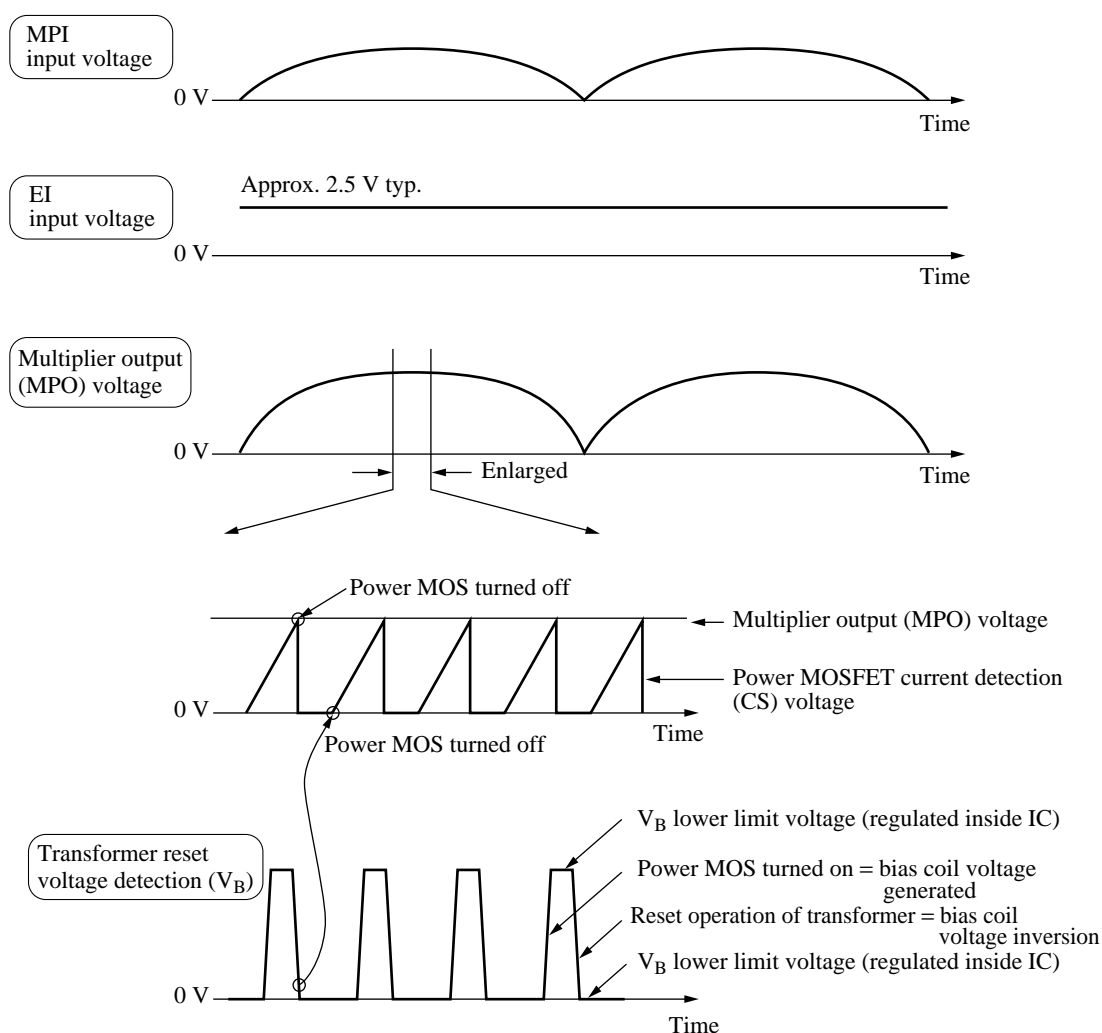
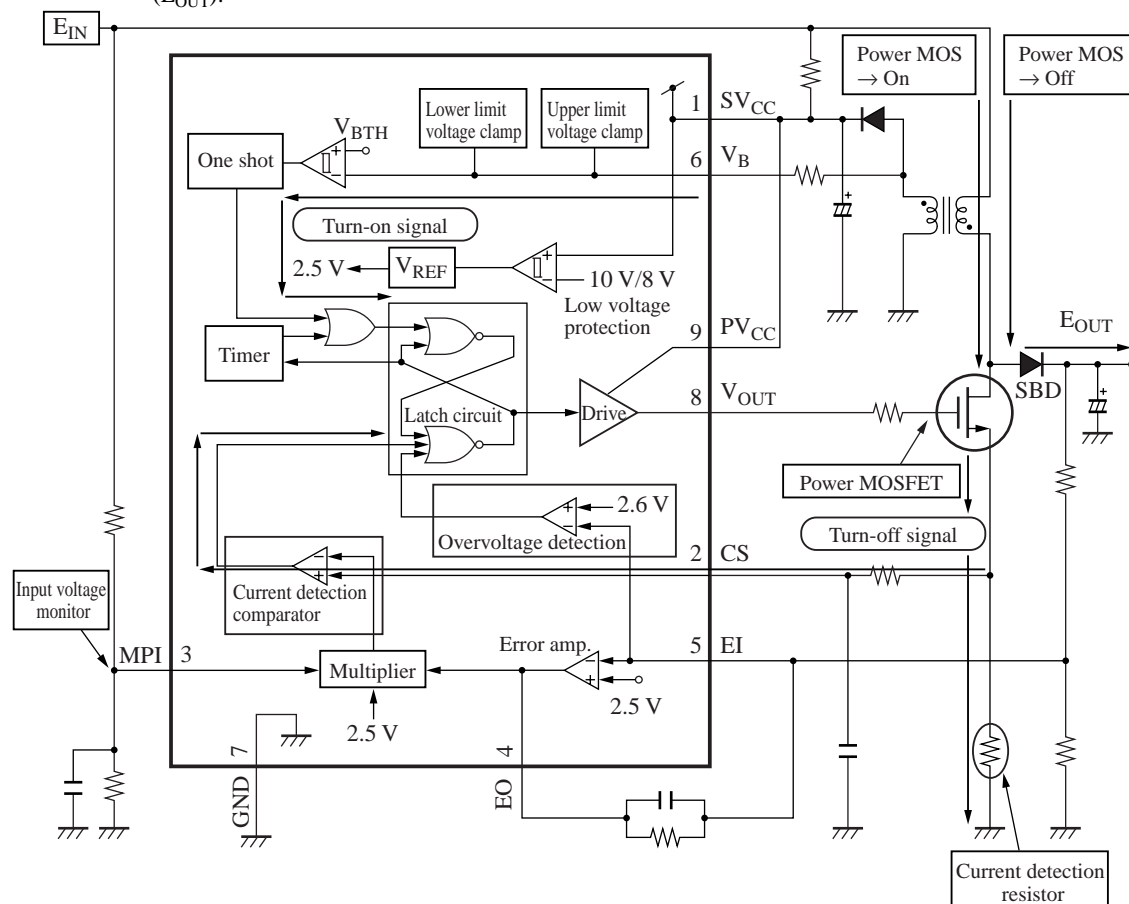

Figure 2. Explanation of normal control operation
Figure 3. Explanation of block diagram and normal operation
2) Control outline description (Refer to figure 2 and figure 3.)
2) Control outline description (Refer to figure 2 and figure 3.) (continued)
(4) Switching device current
(8) Switching device turn-on